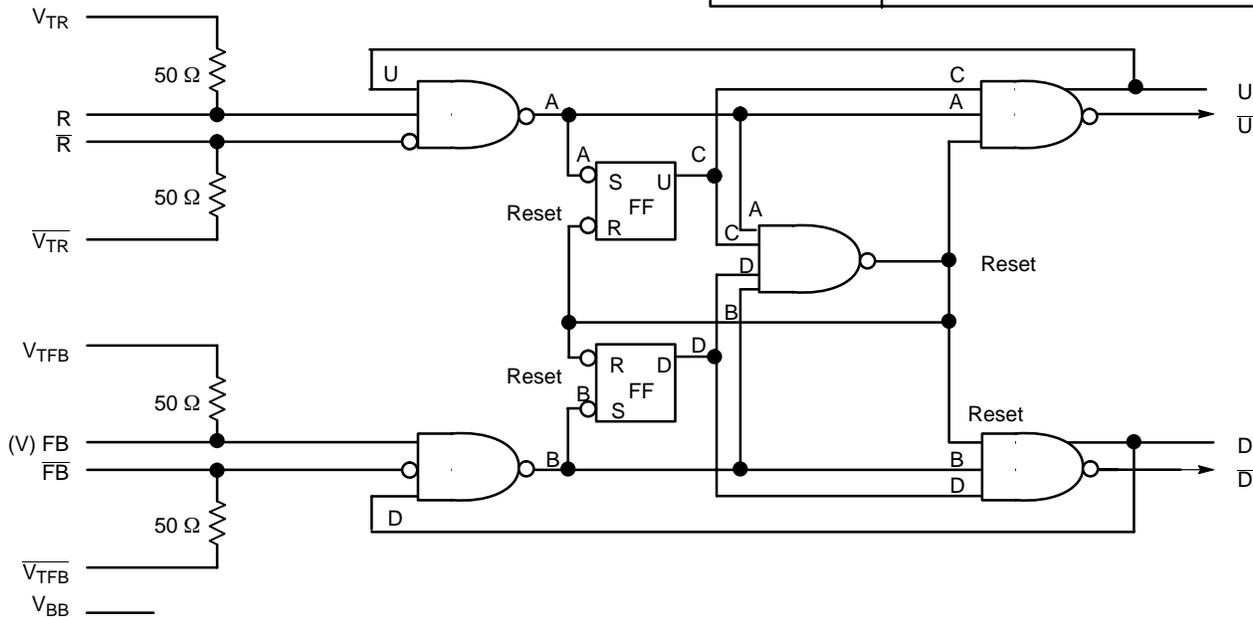

Figure 2. Logic Diagram
When Reference (R) and Feedback (FB) inputs are 80 ps or less in phase difference, the Phase Lock Detect pin will indicate lock by a high state ( $V_{OH}$ ). The  $V_{TX}$  ( $V_{TR}$ ,  $\overline{V_{TR}}$ ,  $V_{TFB}$ ,  $\overline{V_{TFB}}$ ) pins offer an internal termination network for 50  $\Omega$  line impedance environment shown in Figure 2. An external sinking supply of  $V_{CC}-2 V$  is required on  $V_{TX}$  pin(s). If you short the two differential  $V_{TR}$  and  $\overline{V_{TR}}$  (or  $V_{TFB}$  and  $\overline{V_{TFB}}$ ) together, you provide a 100  $\Omega$  termination resistance that is compatible with LVDS signal receiver termination. For more information on termination of logic devices, see AND8020.